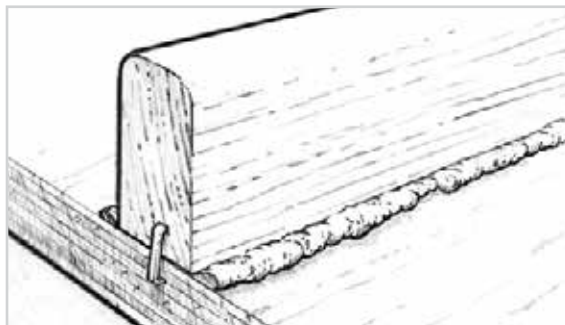

Figure 8-10 A small amount of epoxy will squeeze out of the joint with just the right amount of thickened mixture and clamping pressure.
3. Clamp components. Attach clamps as necessary to hold the components in place. Use just enough clamping pressure to squeeze a small amount of the epoxy mixture from the joint, indicating that the epoxy is making good contact with both mating surfaces (Figure 8-10). Avoid using too much clamping pressure, which can squeeze all of the epoxy mixture out of the joint.